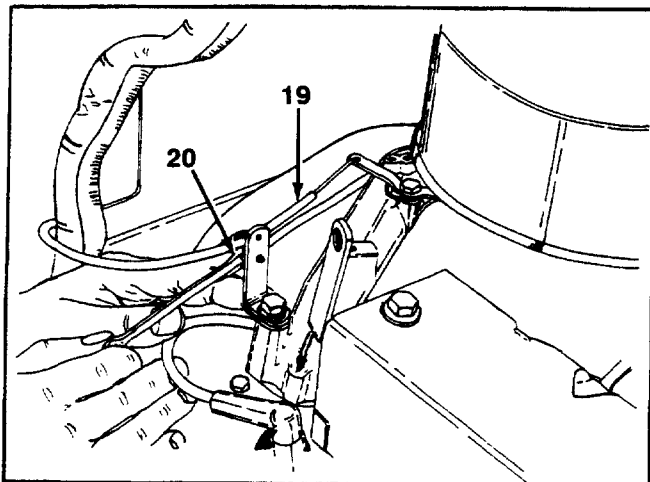

FIGURE 14.
17. Disconnect the throttle control cable, located on the right hand side of engine using a $\frac{1}{4}$ " wrench. Loosen the hex bolt and cable clamp. See figure 14. Unhook the end of throttle cable and remove.